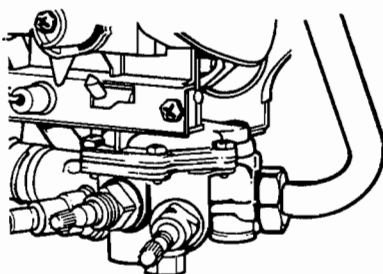

Fig. 17
b) Unscrew the six screws (A) which hold the water section position to the gas section (see fig. 17).